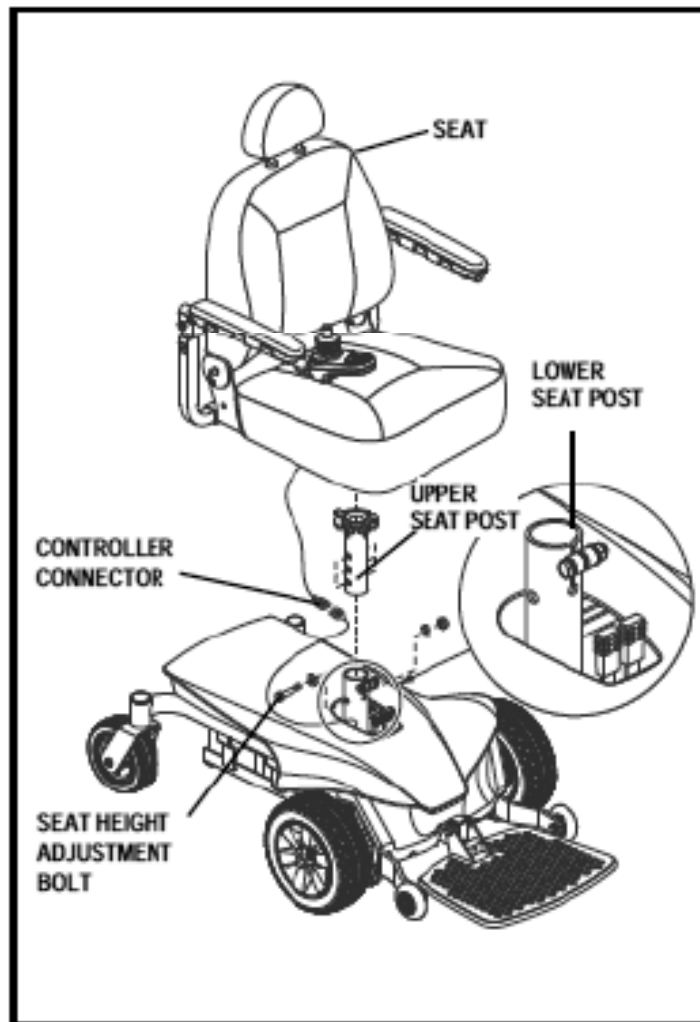

Figure 12. Seat Height Adjustment
3. Disconnect the controller connector from the power base. See figure 12.
5. Loosen the hardware at the rear of the seat post. See figure 12.
6. Remove the seat height adjustment bolt, washers, and nuts from the seat post. See figure 12.